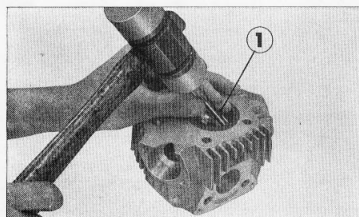

Figure 17. ① Valve guide remover
- a. Remove the valve guide from the cylinder head using the valve guide remover (Tool No. 07942-3290100). (Fig. 17)